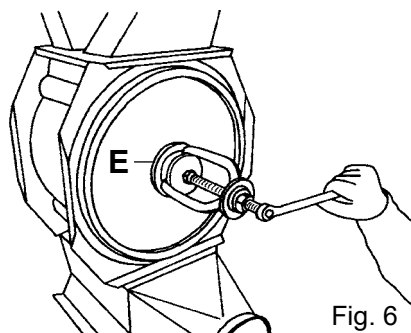

Fig. 6
3. Dismount the screws from the end plate (D) and remove the end plate, see figure 6. It is easy to dismount the end plate by fixing a special tool (E) on the end plate and, accordingly, withdraw the end plate by means of an ordinary puller. The tool can be provided by Kongskilde, sales no. 121 000 698.